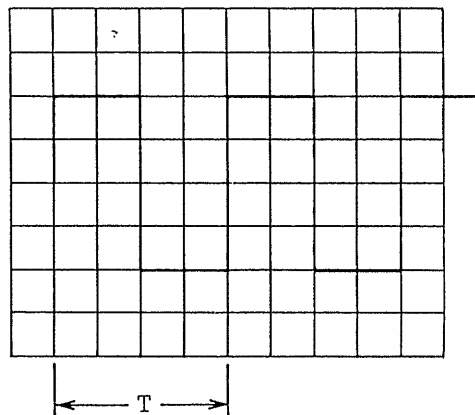

Figure 5-4
Apply to the X-axis a known frequency from a signal genetator (SG) and to the Y-axis the frequency to be measured. Adjust the required controls so that a pattern is displayed on the full surface of the CRT screen. Then adjust the frequency of the signal generator so that the displayed pattern becomes stationary as shown in Figure 5-4. From the displayed waveform, the unknown frequency can be calculated as follows: